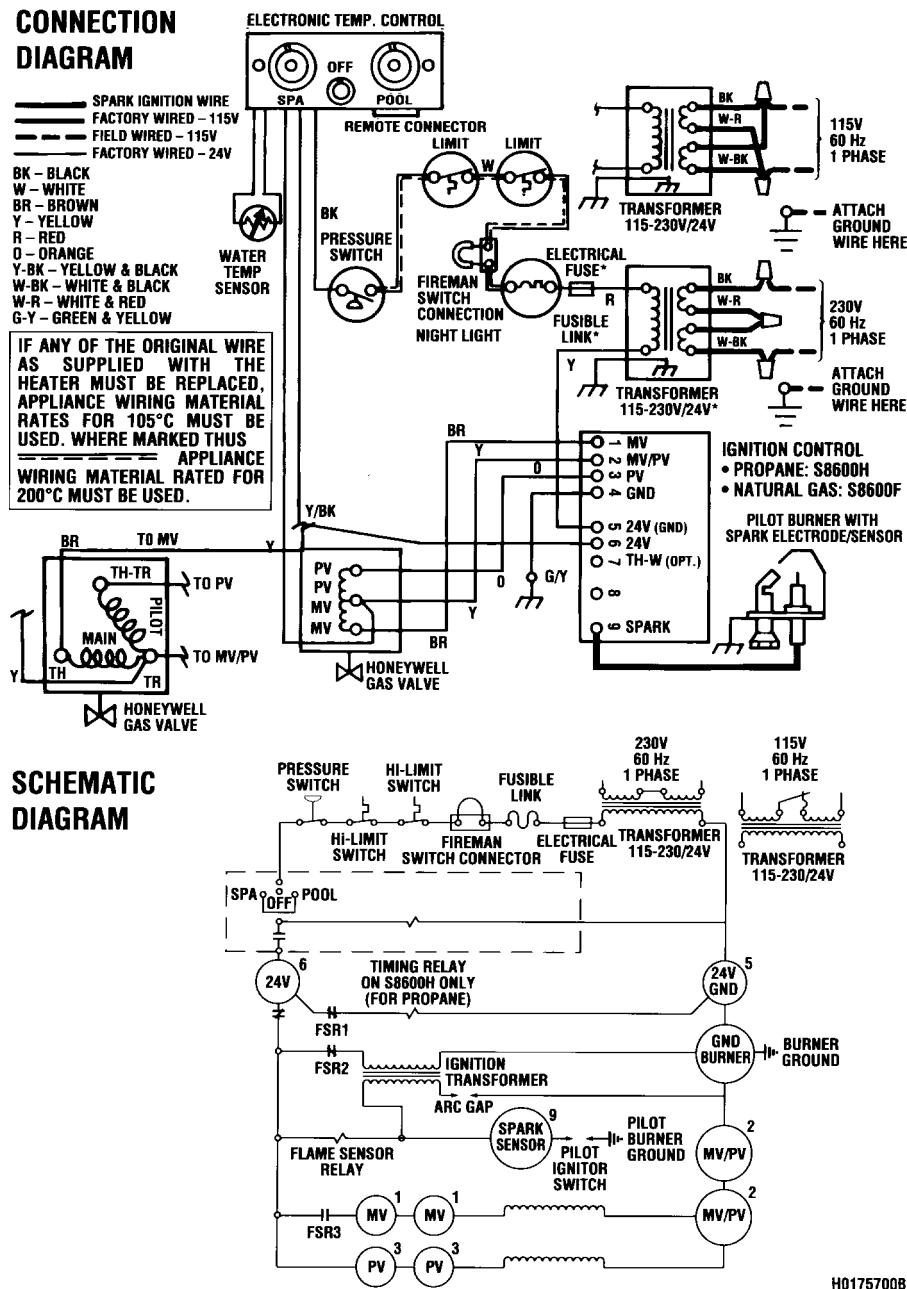

Figure 6. ESC Wiring Diagram
Wiring connections must be made exactly as shown in the wiring diagram found on the inside of the heater (see Figure 6 for typical example) and must include a definite means of grounding. There is a bonding lug on the right side of the heater, where a bond wire must be attached.
2. Remove the factory installed wire between terminals 1 and 2 on the terminal strip (see Figure 6).
10. Tag and disconnect the white wire on the pressure switch (PS) and the white wire on the Fireman's switch terminal (see Figure 6) which leads to the high limit switch.